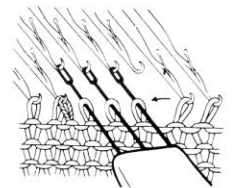

Fig.57-2
- Using the treble eye transfer tool, move all the stitches over until the end needle is empty. (Fig.57-2)